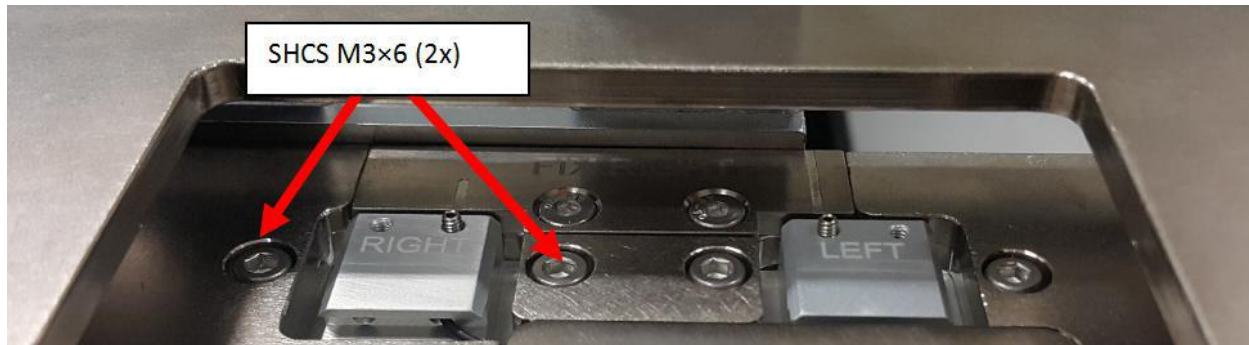

Figure 39 SHCS M3x6 (2x)
2. Push 4JAXY-034 PIP Sensor Mounting Plate to maximum direction (Blue Arrow) and align with the line as shown in Figure 39
3. Tighten back SHCS M3×6 (2x) as shown in Figure 39